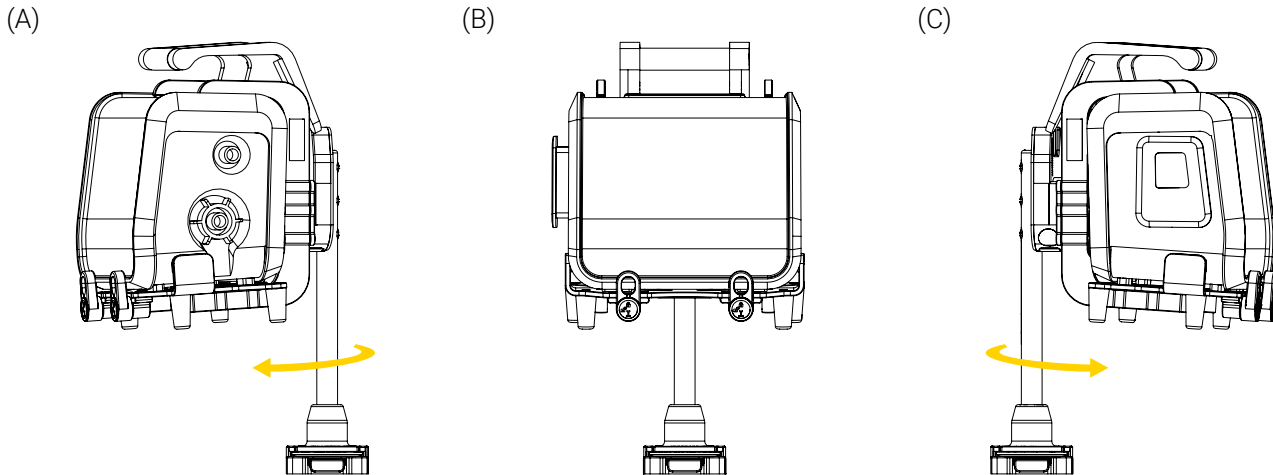

Figure 17: Rotating the medical device (vertical, standard/short)
- Turn the medical device up to 360° clockwise or counterclockwise to the desired position (Figure 17 or Figure 18).